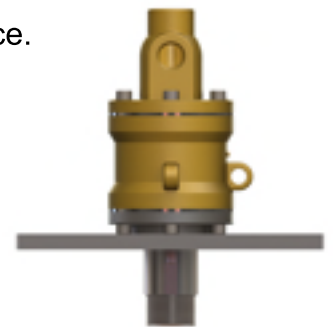

FIG 1
- 6- Hold the housing(1) of the joint with a bench vice and take out the inlet and outlet hoses.
- 10- Place the joint on the table onto the housing flange(5) as shown on Fig.1.
- 12- Do not forget that there is spring(11) inside the joint. All internal parts may pop out from the housing because of the force of the spring.
- 13- Remove hex bolts(17) from the end cap. Before last two bolts, hold the end cap(12/13/14/15/16) from the outer side and press slightly to the housing.
- 16- Take out spring(11), graphite bearing(9), shaft (2) and seal ring(8) from the housing.
- 18- Separate the internal retaining ring(3) with appropriate snap ring pliers.
- 19- Take out the front graphite bearing(4) from the housing flange.
- 20- Remove bolts(6) from the front housing flange(5) and separate housing flange from the housing.
- 23- Place a new housing gasket(7) on the housing.
- 24- Clean front housing flange(5) and inspect for deformation; if sealing surface is damaged replace it with new one.
- 25- Place the front housing flange(5) onto the housing gasket(7). Concave surface of the housing flange must face inside.
- 26- Align bolt holes of the front housing flange(5), housing gasket(7) and housing(1); fix the housing flange with appropriate bolts (6).
- 27- Assemble a new front graphite bearing(4) into the socket of the end cap and fix it with retaining ring(3).
- 28- Rotate housing upside down and place it on the table as shown Fig. 1.
- 29- Place a new seal ring(8) inside the housing; convex face of the seal ring facing concave surface of the housing flange.
- 30- Clean shaft(2) and inspect for corrosion and deformation. If sealing surfaces are damaged replace it with new one.
- 32- Assemble a new graphite bearing(9) inside the housing onto the shaft while spring groove facing upwards.
- 33- Clean spring(11) and inspect for corrosion and deformation, if necessary replace it with a new one.
- 35- Place a new housing gasket(10) onto the housing.